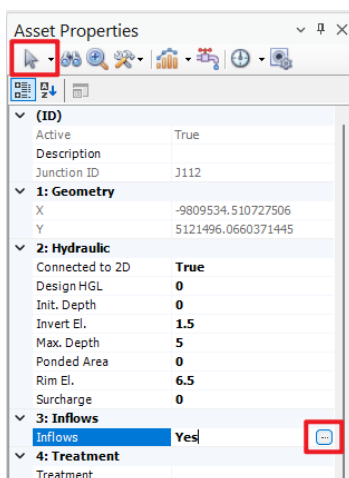
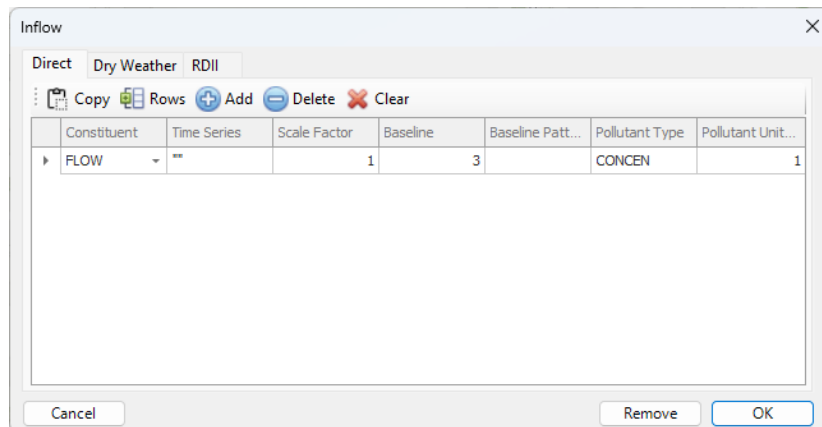

Figure 1: The location of the AquaTwin Selection in the *Asset Properties*.
Figure 2: The inflow table for individual junctions.
1. Use an AquaTwin Selection (see red rectangle in **Figure 1**) to select a junction.
2. Click the ellipses in the red rectangle in **Figure 1**. If a junction has inflows, the *Inflows* input will say **Yes**. **Figure 2** will open. A junction can have an unlimited number of direct and dry weather inflows.